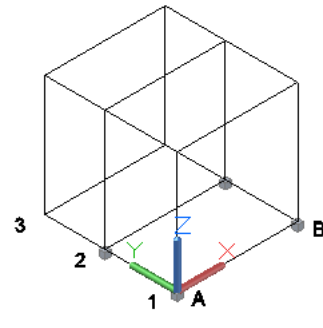

Figure 3-39 Model after adding footings
3. Invoke the **Footring** tool and place the footings at the bottom grid points, as shown in Figure 3-39.